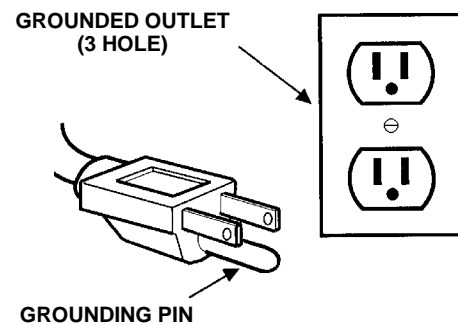

FIG. 2
6. Plug into a grounded 120 volt A.C. outlet (Figure 2)